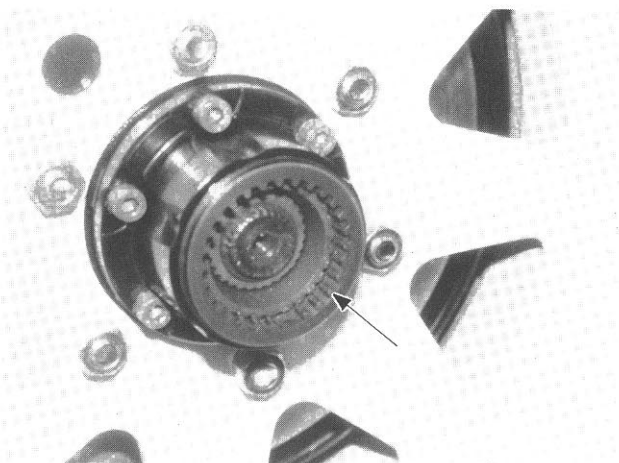

Fig. 17-21
- 4) Confirm that the slide gear of each automatic free wheeling hub at right and left is slided toward the hub body-inside so that the slide gear spline is completely disengage from the hub body spline (i.e., that each automatic free wheeling hub is in the free condition). (Fig. 17-21)